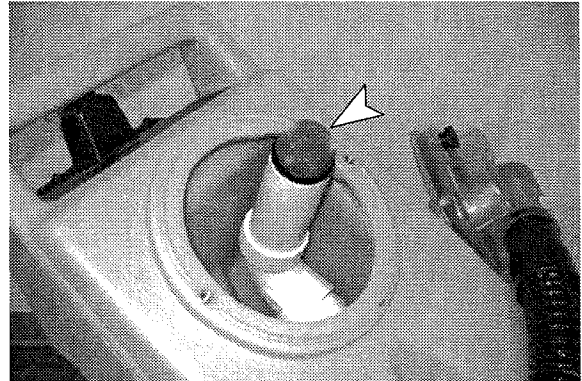

FIG. 12
3. Remove vacuum screen and clean (Figure 12).